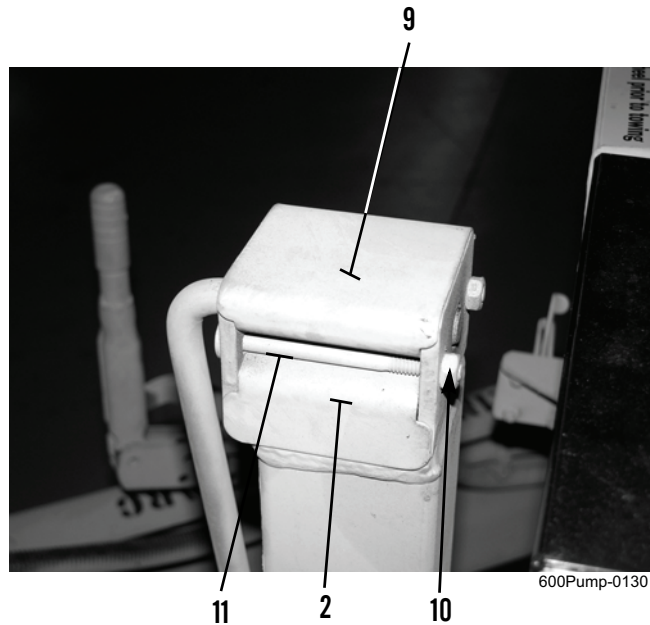

Figure 6. Housing Cover.
4. Extend and retract front leveling jack assembly (Figure 6, Item 2) to check for adequate lubrication.
5. If lubrication is required, remove two nuts (Figure 6, Item 10), bolts (Figure 6, Item 11), and housing cover (Figure 6, Item 9) from front leveling jack assembly (Figure 6, Item 2).
6. Fill cavity and pack gear under housing cover (Figure 6, Item 9) with GAA grease. Reinstall cover with two bolts (Figure 6, Item 11) and nuts (Figure 6, Item 10).